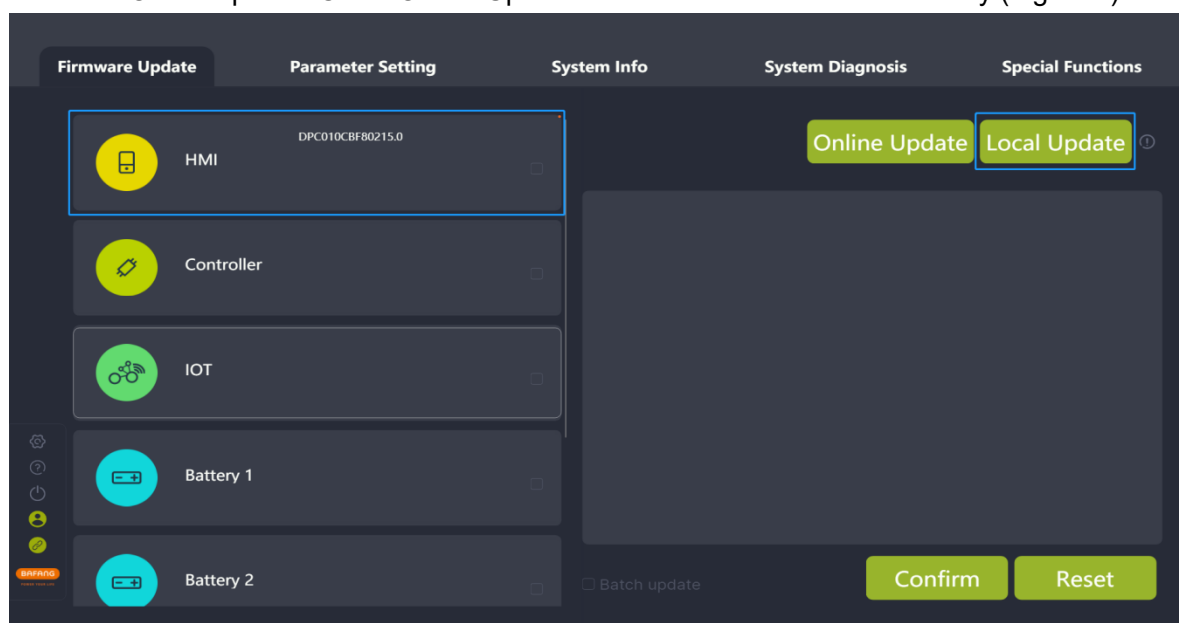

Fig. 4-10 Local update
- (1) Local update: Click "Local Update" to select the firmware to be updated locally (Fig.4-10).